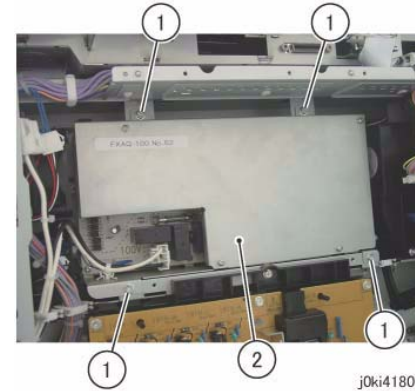

Figure 6 Remove the IH Driver PWB
9. Remove the IH Driver PWB. (Figure 6)